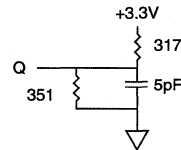

Fig. 2 OUTPUT LOAD EQUIVALENT
- Output loading is specified with $C_L = 5pF$ as in Fig. 2. Transition is measured $\pm 500mV$ from steady state voltage.
- The load used for V_{OH} , V_{OL} testing is shown in Fig. 2. AC load current is higher than the shown DC values.